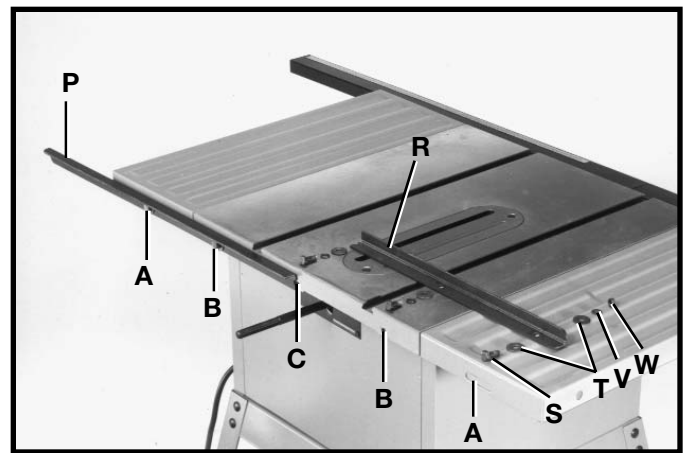
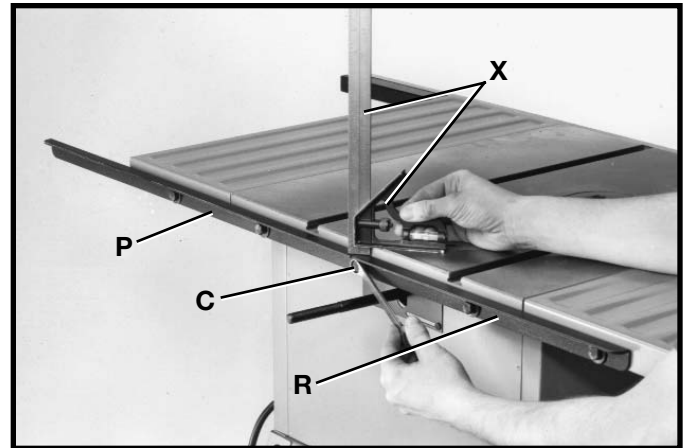

Fig. 18
Fig. 19
5. Assemble longer section of rear guide rail (P) Fig. 18, and shorter section of guide rail (R) to extension wings and saw table at points (A) with 16MM long hex head screw (S), two flat washers (T), lockwasher (V), and hex nut (W); and at points (B) and (C) Fig. 18, with 16MM long hex head screws (S), lockwasher (V) and one flat washer (T). **NOTE: DO NOT COMPLETELY TIGHTEN HARDWARE AT THIS TIME.** Hardware at point (C) Fig. 18, will be positioned between guide rails (P) and (R) as shown in Fig. 19.
6. Using a square (X) Fig. 19, set a depth of 7/16" on the scale, place the square (X) at the center and on top of the saw table. Working toward the two ends of the rear guide rail, make certain the rear guide rail is parallel to the saw table, at 7/16" from the top of the table. Tighten all mounting hardware as height adjustment is made to the rear guide rails.